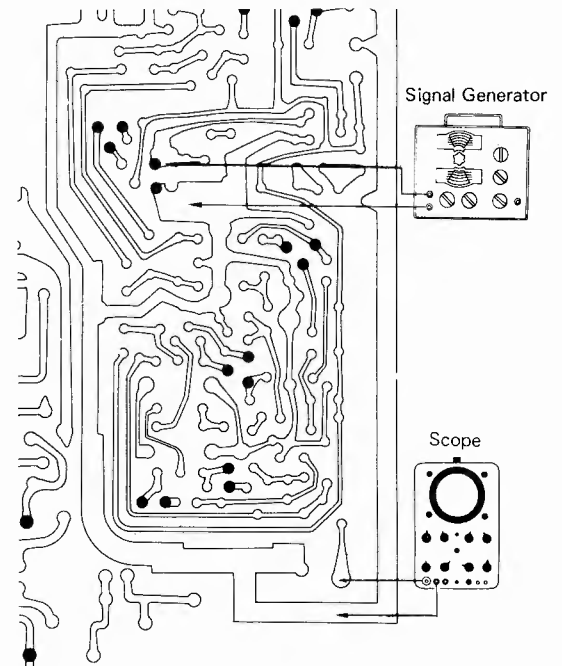

Fig. 17 Preparation for SIF adjustments
4. Connect a signal generator to the video-detector output as shown in Fig. 17.
10. Connect a scope to the SIF output terminals (C420) as shown in Fig. 17, then make the adjustments specified in the following Table 2.